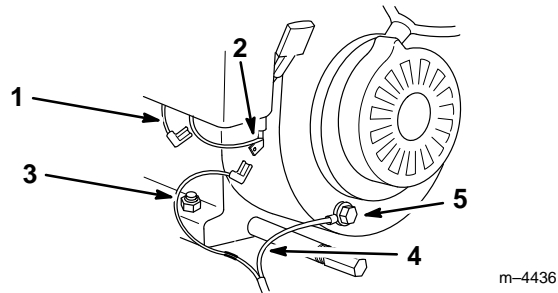

Figure 14
22. Unplug the green magneto wire from the engine and connect the blue wire from the harness to the terminal on the engine (Fig. 14).
23. Attach the black wire to the recoil fastener bolt and nut, as illustrated in Figure 14